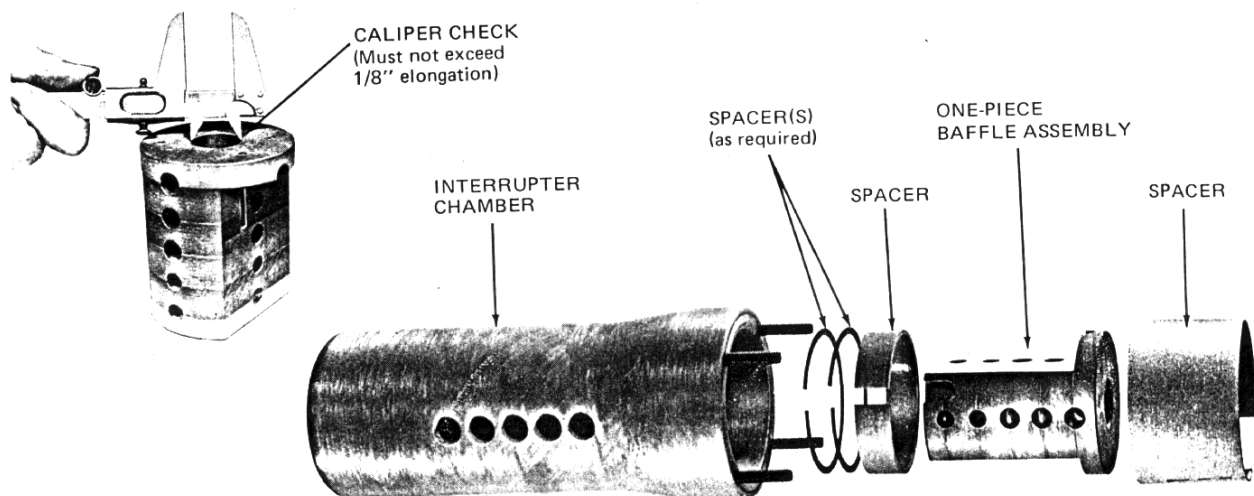

Figure 9
24. Remove baffle assemblies and spacers from interrupter chambers (Figure 9).
25. Clean interrupter chambers and baffle assemblies by flushing them with clean insulating oil (Figure 9).
A. A caliper check can be made through the top of the baffle assembly (Figure 9).
- (1) If elongation of the round hole through the center of the baffle assembly exceeds 1/8 inch, refer to the interrupter chamber baffle assembly in the Parts Replacement section.